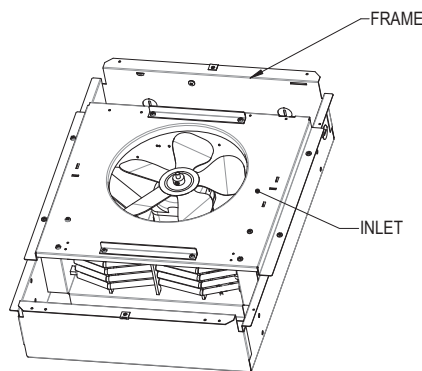

**FIG. 3**
2. Triple units must meet a minimum distance of **12 inches (305 mm)** from surrounding walls and **8 inches (203 mm)** from the floor. For recessed installation opening for triple units, see figure 3.